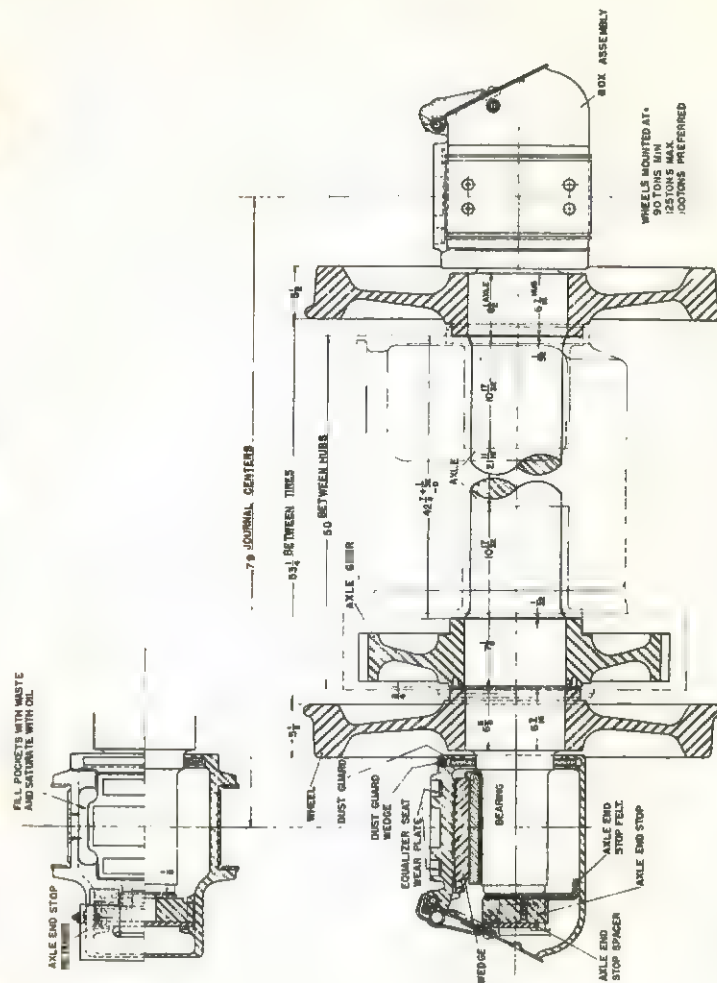

FIG. 7-7
6. For wheel mounting refer to Fig. 7-7.